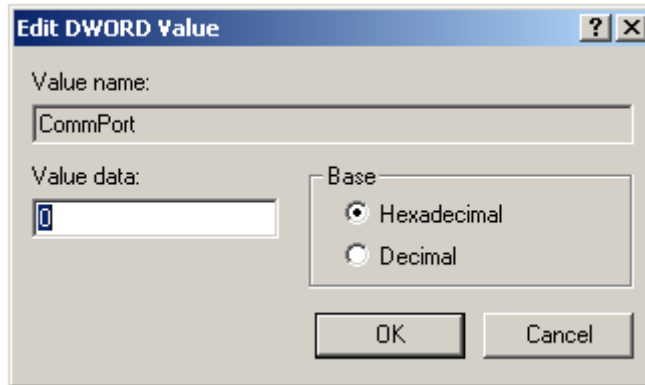

Figure 3, Edit DWord Value
- Verify the Gas Cap Tester by clicking on “Gas Cap Tester” and double clicking on “CommPort”. You should see the following dialog as shown in Figure 3.